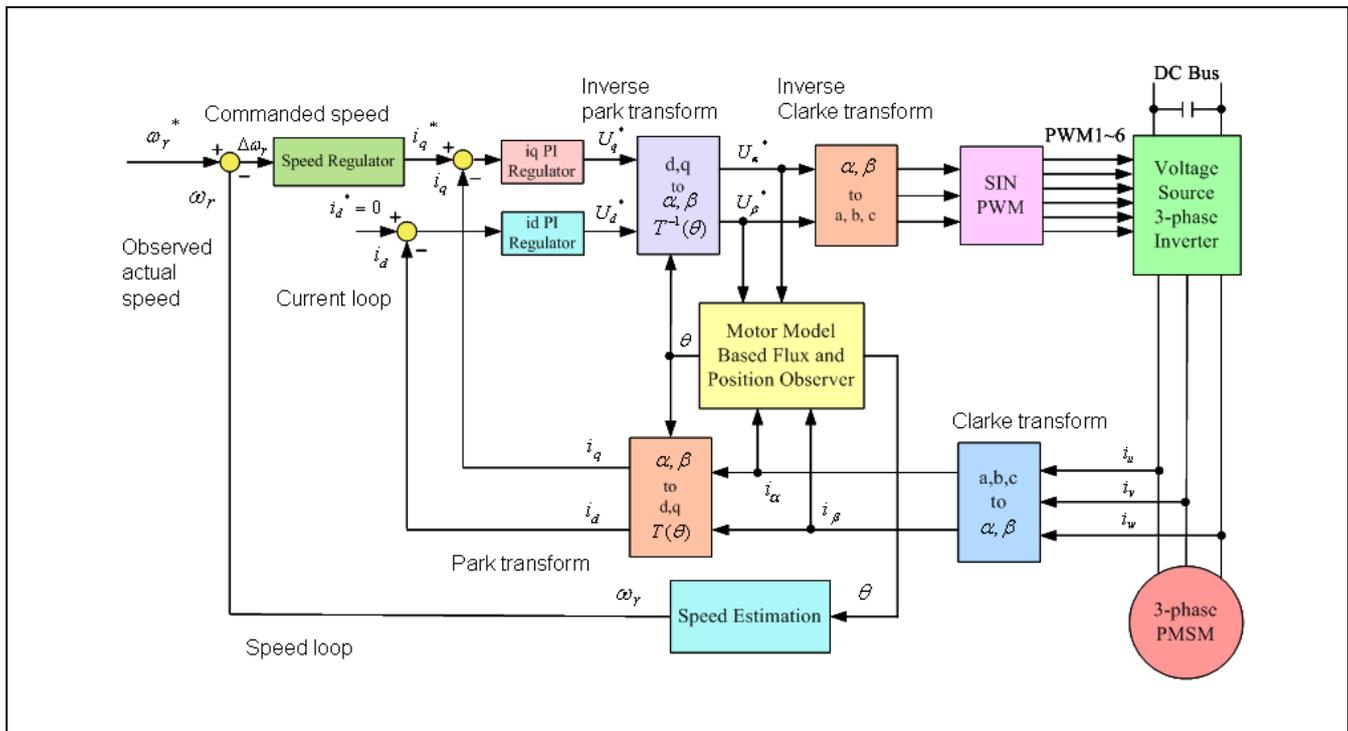

Figure 9 Block Diagram of Sensorless Vector Control
The vector control formulation depicted in Figure 9 provides a straightforward way to control the flux and the torque in a similar way to controlling DC motors – the flux is controlled by the I_d current, while the torque is controlled by the I_q current. Due to its nature, the 3-phase motor has three windings and three currents which are 120 degrees apart. Vector formulation uses Clarke and Park transforms to convert the measured phase currents from the u, v, and w frame to first transform them into the static orthogonal (α, β) frame (which is 90 degrees apart) and then the rotor frame. The rotor frame is also an orthogonal frame aligned along the magnetic field axes known as the d and q frame. These transformations use the transcendental functions sine and cosine of the rotor angle; therefore, it is a requirement that the rotor angle is known at the time the calculation is made. Once the currents are transformed into the d and q frame, the control algorithm simply runs the PID or PI loop to calculate the required voltages for the torque and flux. These required voltages (V_{dc} , V_{qc}) are then transformed back into the u, v, and w frame using the inverse Clarke and inverse Park transforms to further calculate the PWM duty cycle.
All these blocks form the inner current loop shown in Figure 9 with two computing blocks known as flux observer and speed estimation, which are special parts of the sensorless vector control formulation. When a sensor is used to measure the rotor angle and speed measurements, these two blocks change significantly.
- ❖ The software is modularized according to the SVC block diagram (as shown in Figure 9).